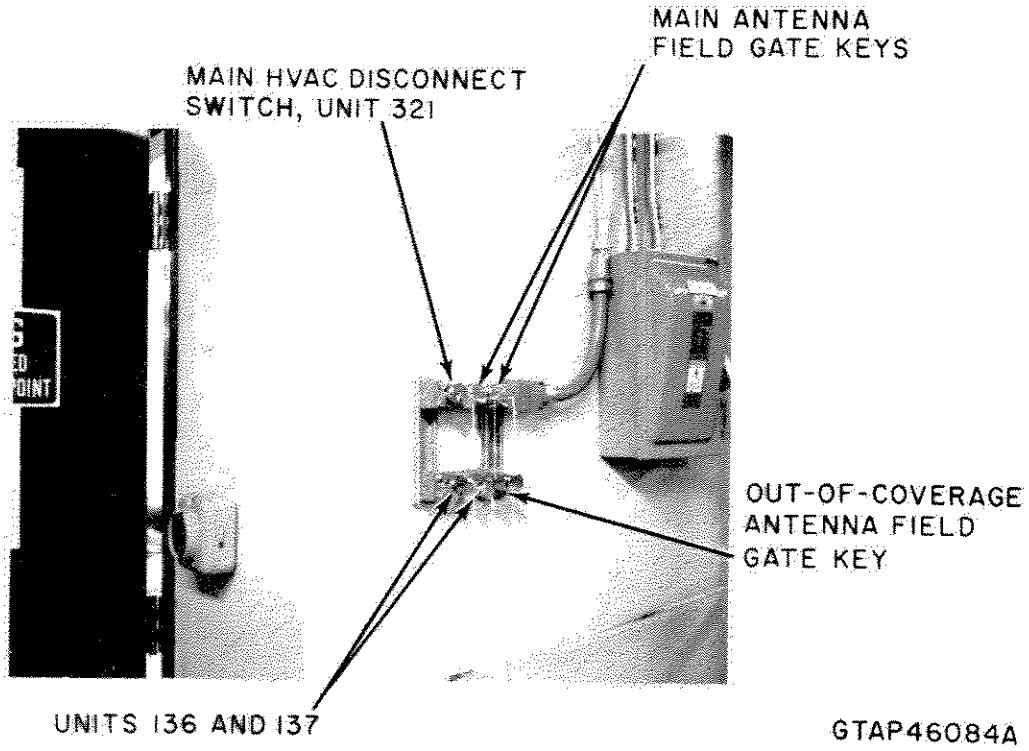

Figure 6-3. Antenna Gate Interlock Key Block
- a. At gate interlock key block (Figure 6-3), insert and rotate key from HVAC switch cabinet in interlock labeled MAIN HIGH VOLTAGE disconnect switch.
3. Insert and rotate transmit antenna field gate keys in gate interlock key block (Figure 6-3) in transmitter building.